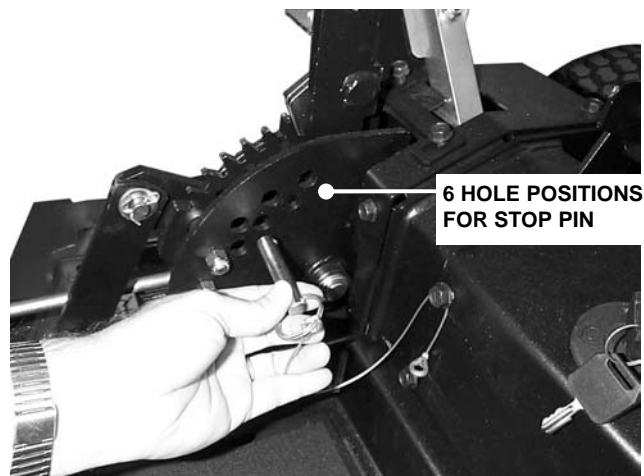

FIGURE 3.11
2. If a specific deck height is desired each time the machine is used, insert the stop pin to desired cutting height. See Figure 3.11.